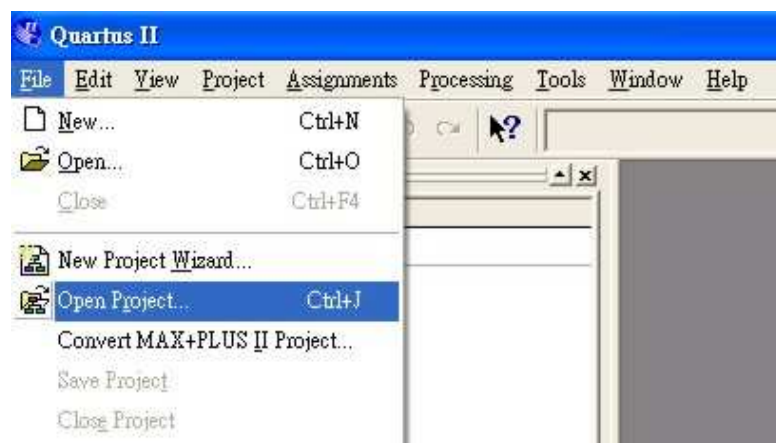

Figure 4.1. Menu for Opening Quartus II Project
- ✓ Click on File > Open Project (See Figure 4.1).